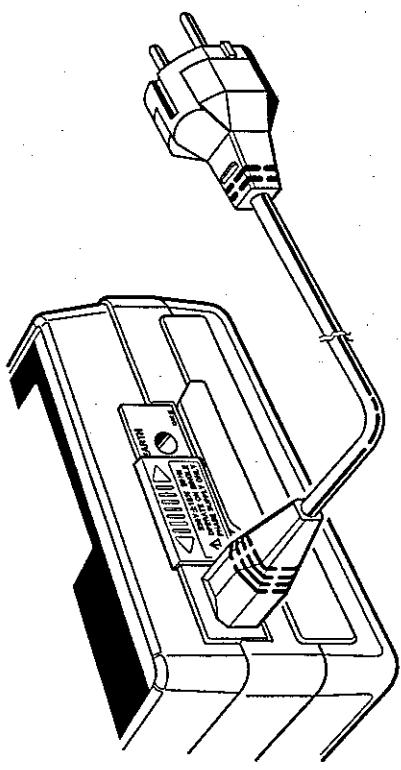
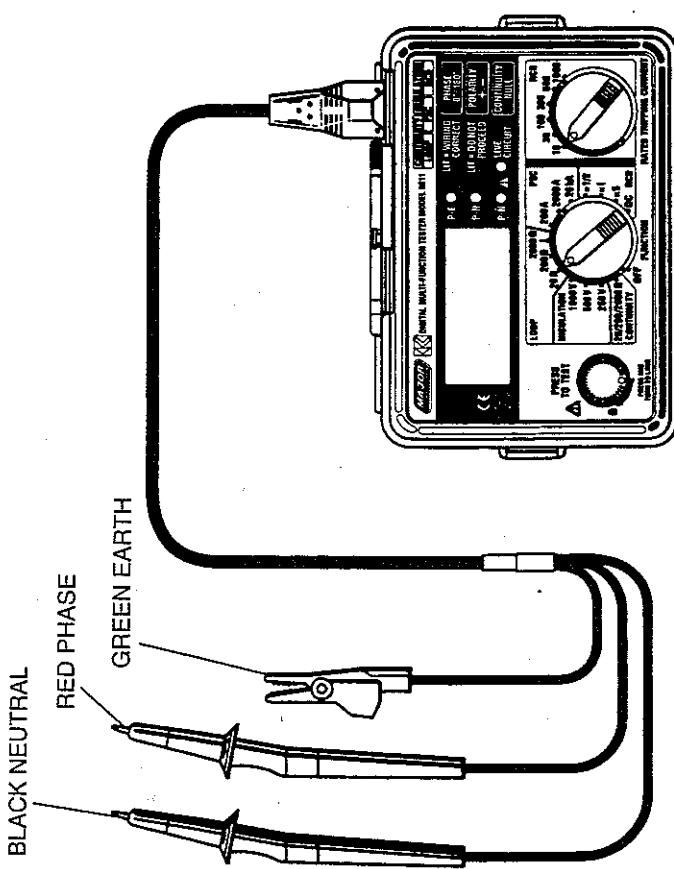

Fig 9
Fig 10
2. If testing sockets, connect the plug lead to the Model 6011 and push the moulded plug into the socket to be tested (see Fig 9).
6. If testing lighting or other circuits, connect the three-wire lead OMA D1EC to Model 6011, connect the red (phase) lead to the phase connection of the circuit under test, connect the black (neutral) lead to the neutral connection of the circuit under test, and connect the earth lead to the earth associated with the circuit. (see Fig 10).
4. Connect the instrument to the RCD to be tested either via a suitable socket outlet (see Fig 9) or using the OMA D1EC test lead set (see Fig 10).